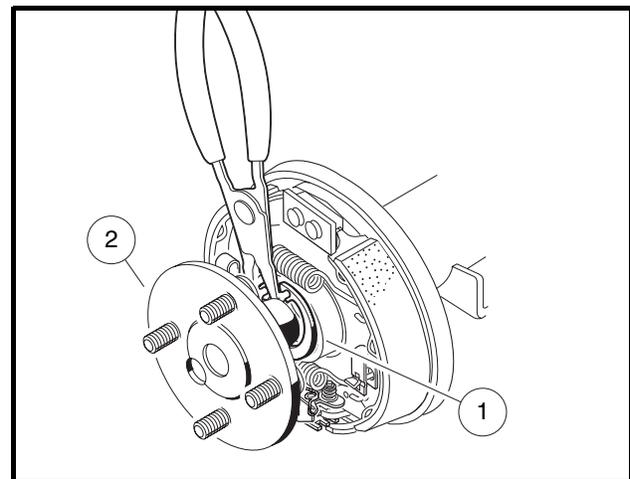

Figure 6-3 Remove Axle Retaining Ring
- 5.1. Using 90° snap ring pliers (CCI P/N 1012560), remove axle retaining ring (1) (**Figure 6-3, Page 6-2**).
- 5.2. Pull the axle shaft (2) from the axle tube (**Figure 6-3, Page 6-2**).
7. Install axle shaft (2) into axle tube and install retaining ring (1) (**Figure 6-3, Page 6-2**). See following **WARNING** and **CAUTION**.